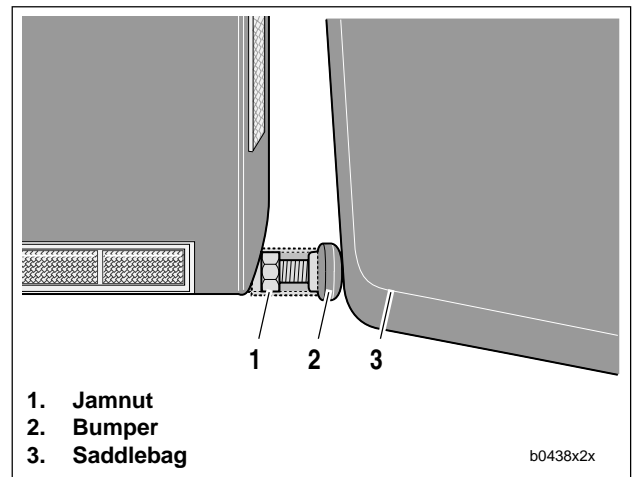

Figure 2-125. S3T Saddlebag Alignment
5. See Figure 2-125. If saddlebags are difficult to close or install, check rear saddlebag bracket alignment on both sides.
- b. Turn bumper (2) counterclockwise until it contacts saddlebag (3).
- d. Tighten jamnut (1) against rear saddlebag support bracket.